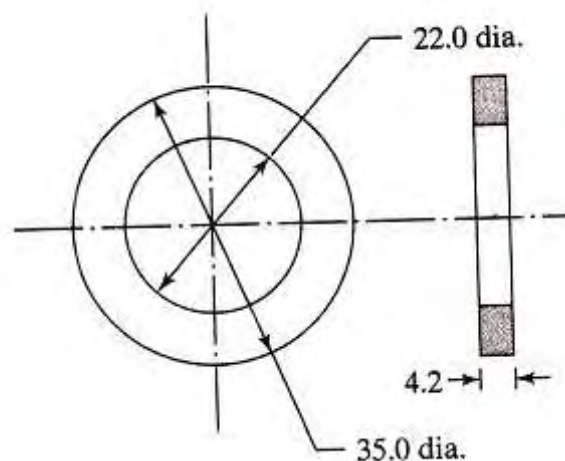

Figure 5
5. (a) Develop the form code of the Optiz system for the part shown in figure 5 below. All dimensions are in mm.